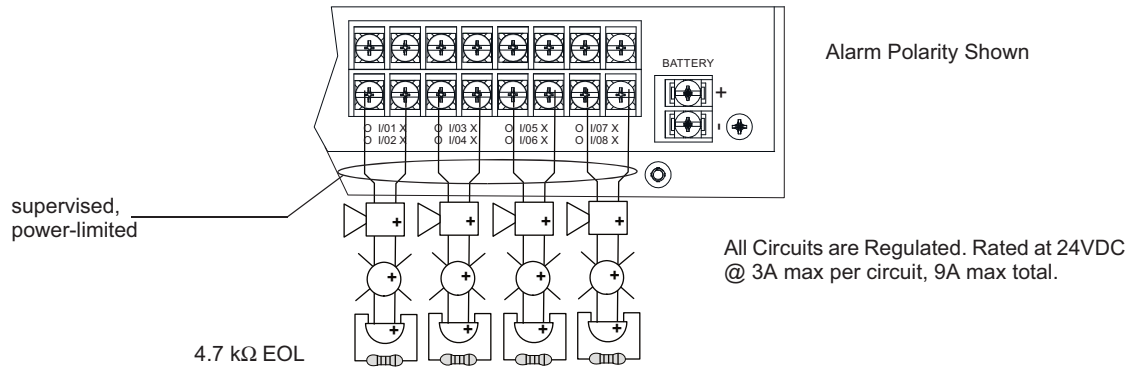

Figure 4.46 Class B Notification Appliance Circuit Wiring
- 1. Wire Class B notification appliances as shown in Figure 4.46.